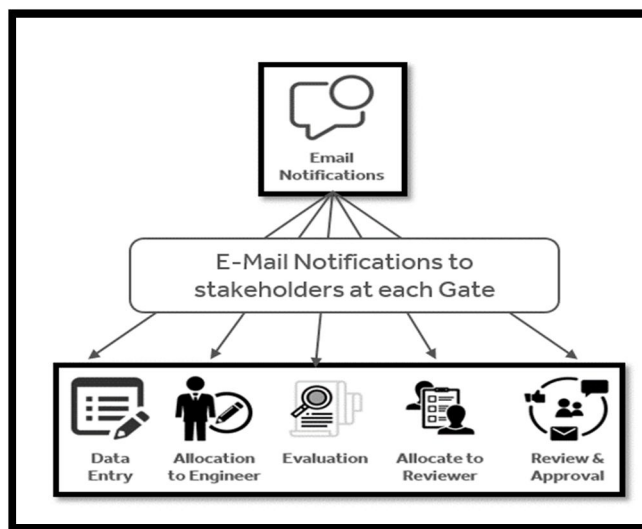

Figure 6: Sample E-mail Notifications
- 3) Automatic E-mail Notification makes a good amount of difference in productivity as it brings up seamless communication for every process step between stakeholders. Whenever there is a change in any workflow, feedback from stakeholders, delay in deliveries, and reprioritization of Non-conformance from the customer all the necessary stakeholders get E-mail notifications seamlessly as shown in Figure 6. This is simple but of great importance, as it foolproofs all the possible process lapse by a simple E-mail alert unlike in manual processes. These alerts work even the stakeholder is not logged in the portal or occupied with other priority tasks. All such mapping of stakeholder alerts is done in Admin gate in the background which can be edited on a need basis like any change in designation, movement of associate to other teams, or even resignation from the company.